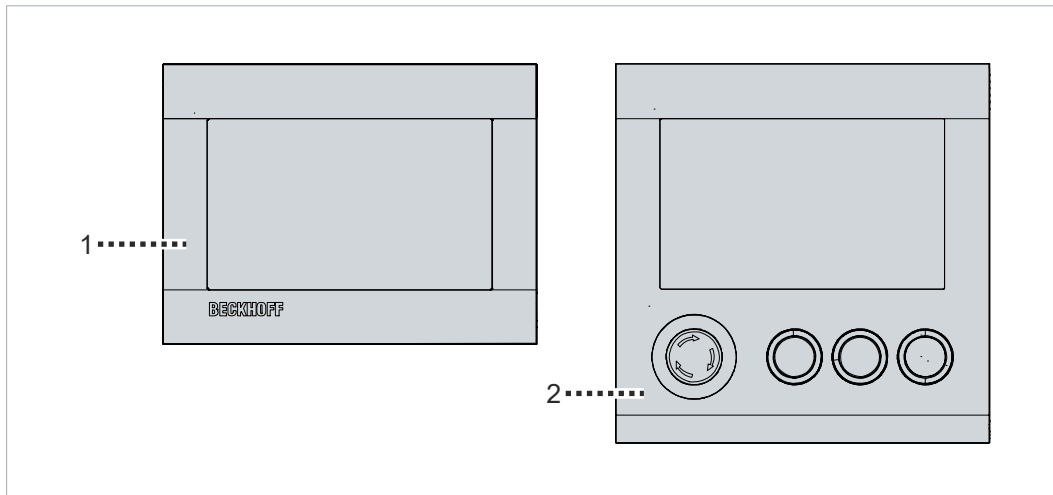

Fig. 1: Panel PC with and without push-button extension
For explanations of the push button extensions and the functions, refer to the manual C9900-G070/G071. Figure 1 shows an example of the panel PC without (1) and with (2) push button extension.